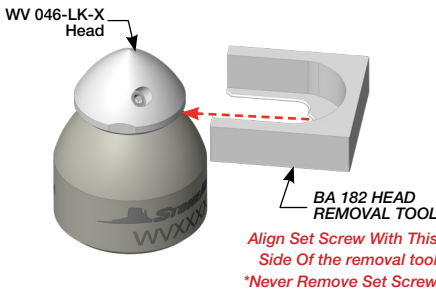

Figure 5: For Step 4
4. Orient the Head Removal Tool so that the flats on the head align with the sides of the tool. See Figure 5